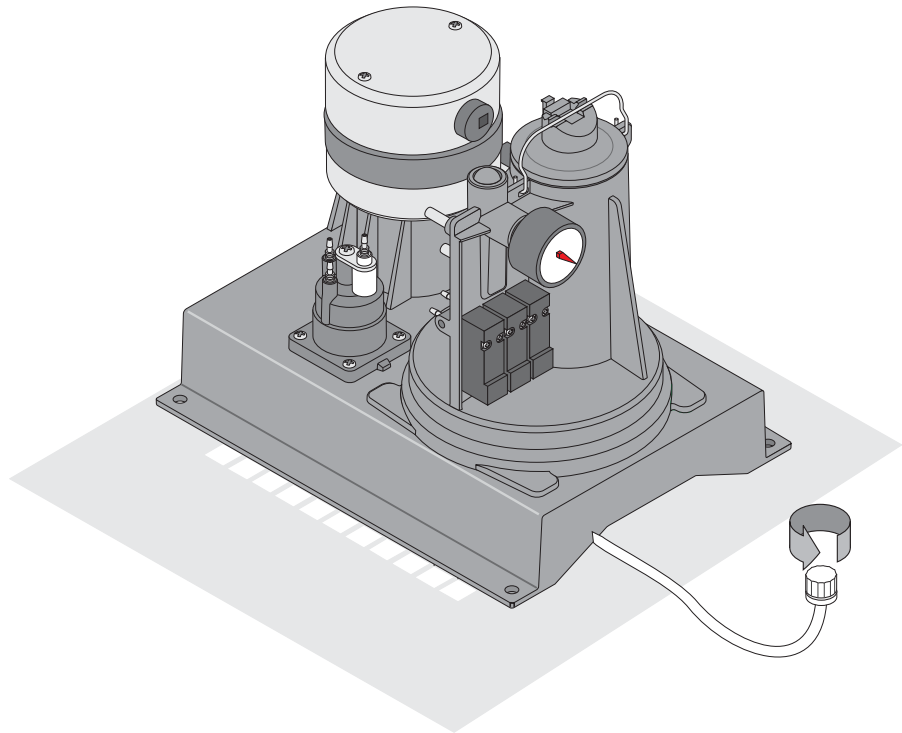

Figure 6-10: Reservoir Bleed Tube
- 1 Retrieve the end of the reservoir bleed tube. This tube is normally coiled loosely under the FMS (Figure 6-10).
- 6 Disconnect the cap from the end of the reservoir bleed tube (Refer Figure 6-10 on page 6-9) and direct the tube into the grounded ink collection tray located below the FMS.